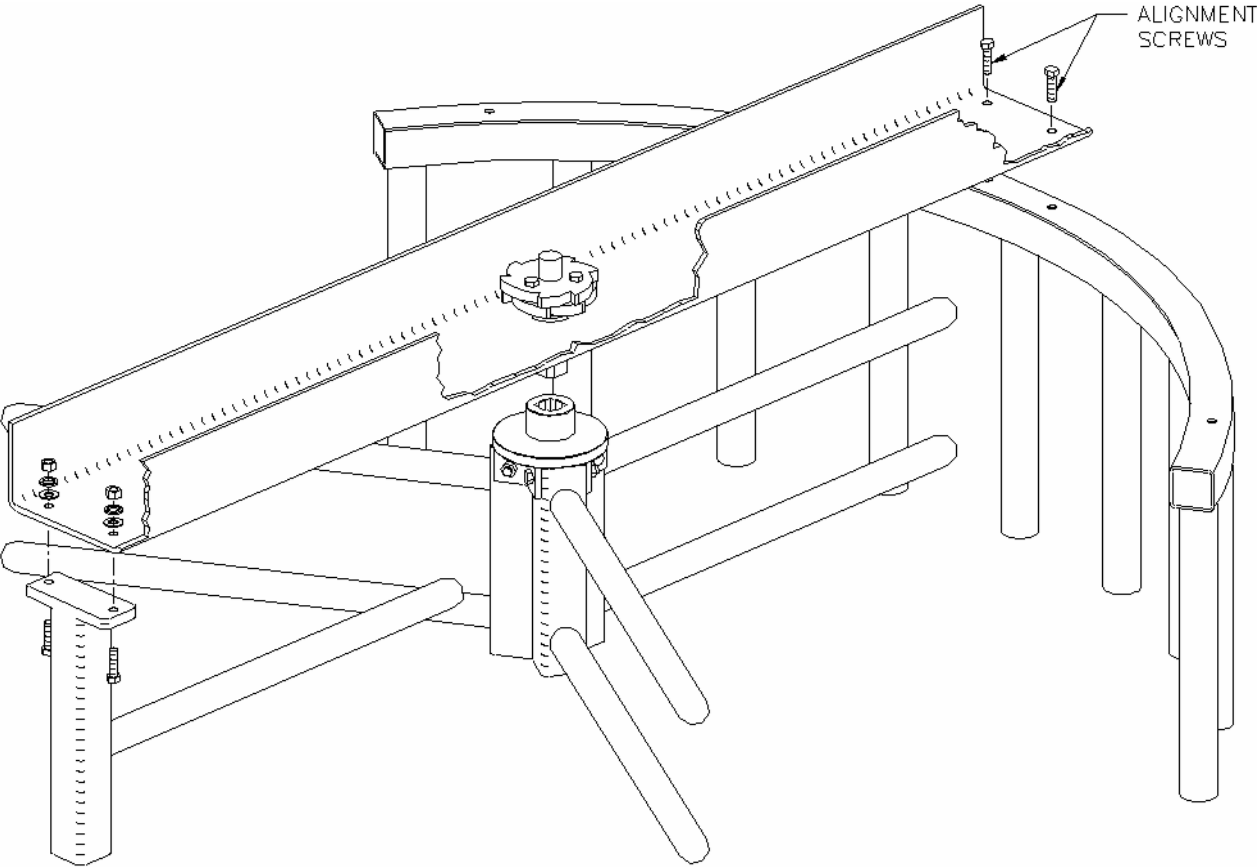

Figure 17
- 8. Remove cover from channel and place channel on top of barrier post, upper flange and shield assembly. Align mechanism shaft (extends from channel) and work down easily into the upper flange. See Figure 17. When seated, channel will rest on barrier post, rotor assembly, and shield assembly. Insert the two screws 3/8" – 16 X 1" through the channel to shield assembly; do not secure.